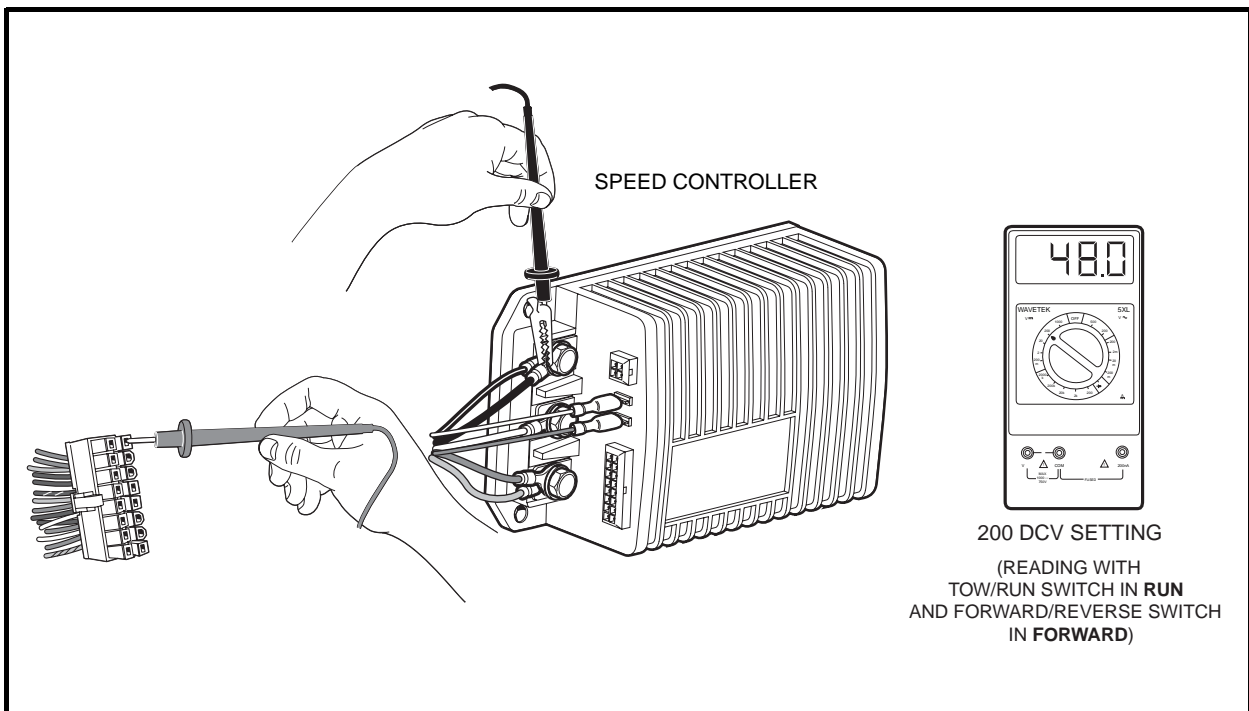

Figure 11-17 Pins 8 and 16 Test
4. Using a multimeter set for 200 volts DC, insert the red (+) probe of the multimeter into pin 8 (brown wire) of the 16-pin connector. **See following CAUTION.** Using an alligator clip, connect the black (-) probe to the B- terminal of the speed controller (**Figure 11-17, Page 11-31**).